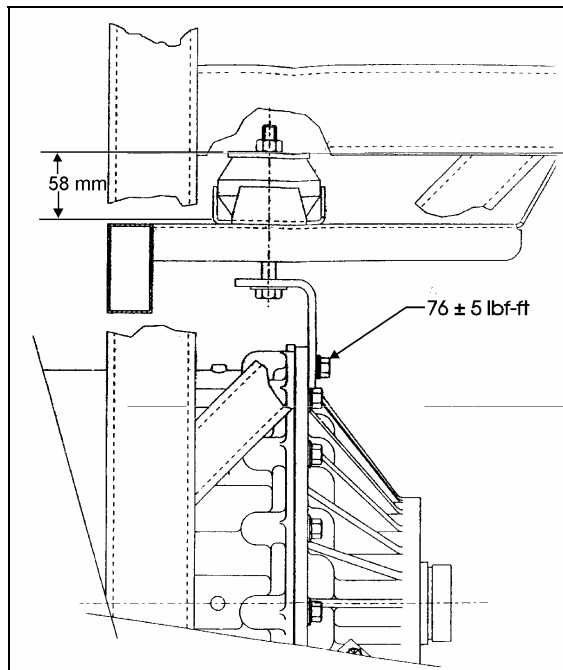

FIGURE 20: NUT TOLERANCE
10. If the vehicle is equipped with a retarder; install the bracket on the transmission and tighten the bolt to 71-81 lbf•ft (96-110 N•m). Install the transmission rubber mount between the rubber support and the frame with a bolt, nut and washer. Tighten the nut until the tolerance of 58 ± 2 mm is met (Fig. 20).